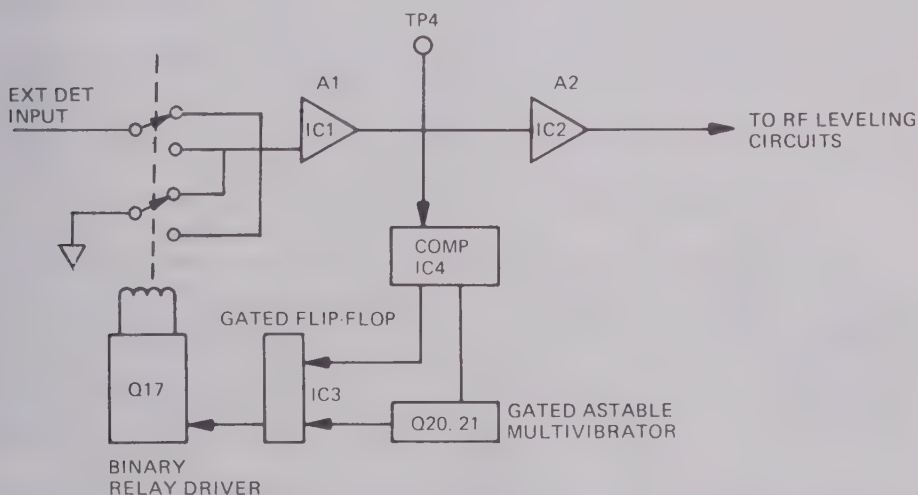

Fig. 12 Block diagram of auto-polarity circuit
38. A simplified block diagram of the circuit that controls this operation is shown in Fig. 12. The input to A1 is controlled by a d.p.d.t. relay which changes the polarity of its gain. The output of A1 is sensed by a comparator circuit which produces a transition when the level at TP4 exceeds a specified value and polarity. This level is exceeded (+0.15 V) when the wrong polarity occurs at the input and the loop attempts to increase the r.f. output. The transition turns on both the multivibrator, which oscillates at a few cycles per second, and the gated flip-flop which is also driven by the multivibrator. The output of the flip-flop drives a binary relay driver.